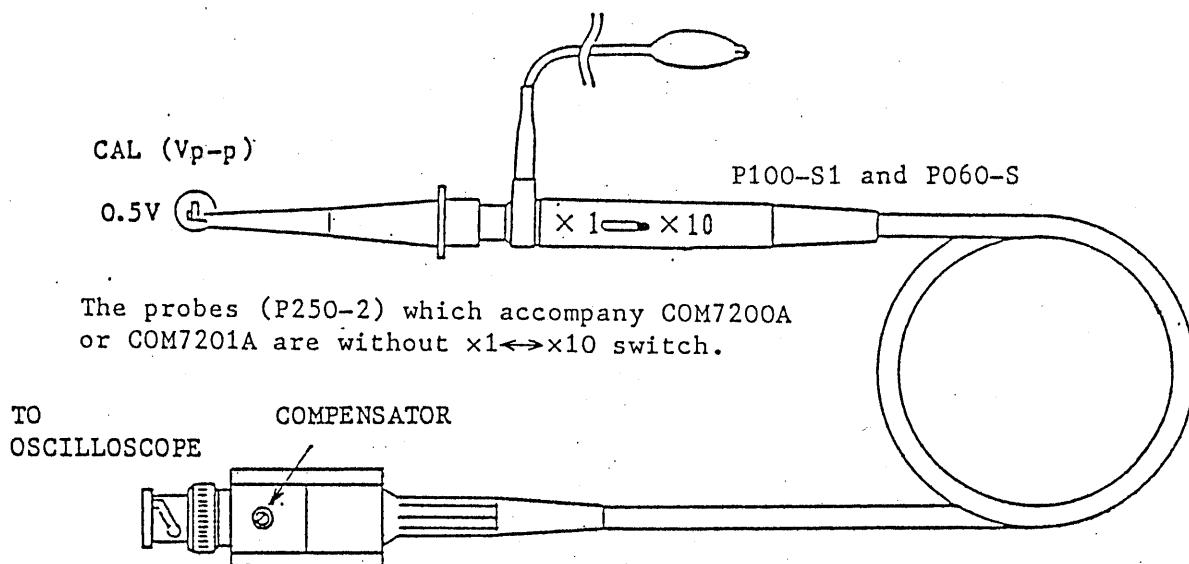

Figure 4.6
Connect one of the probes to the CH1 INPUT ⑧ terminal and set the VOLTS/DIV ⑥ switch at 10 mV. For Type P100-S1 or P060-S Probe, set the switch at  $\times 10$ . Connect the probe tip to the CAL terminal. Observing the waveform displayed on the CRT, adjust the compensator (see Figure 4-6) with a screwdriver so that an ideal waveform is obtained.